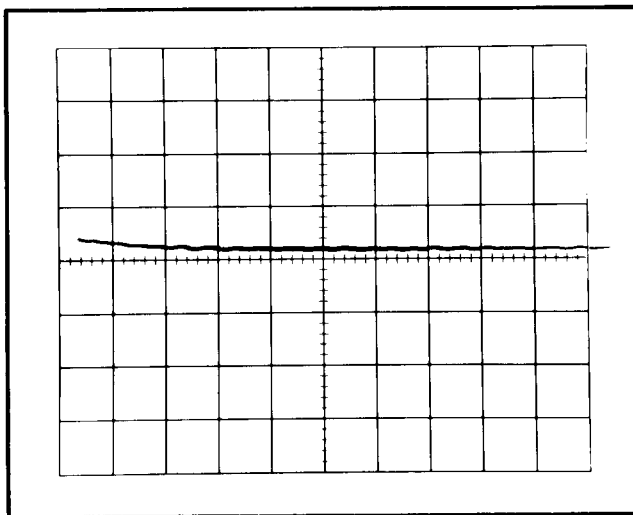

Fig. 5-6. Typical CRT display when checking overdrive recovery time.
k. CHECK—The time (on the indicator oscilloscope graticule) required for the trace to return to within one division (0.5% of one volt = 5 mV) of graticule center on each sweep. The recovery time should not be more than ten microseconds (see Fig. 5-6).